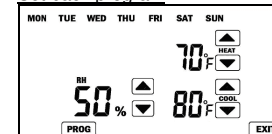

Fig6.
1. In program mode, Press **PROG** enter to Set back program(see Fig6).